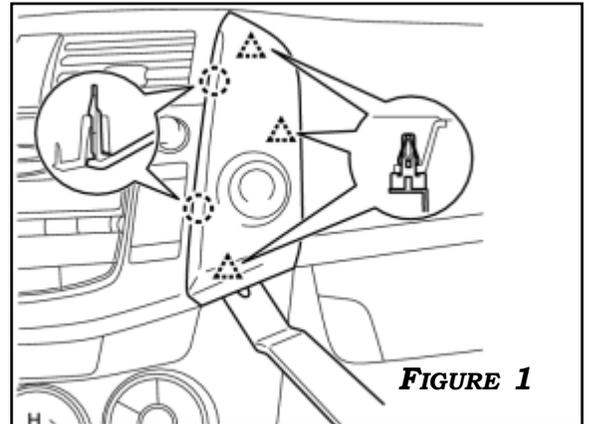

FIGURE 1
1. USING A MOULDING REMOVER, DETACH THE 3 CLIPS AND 2 CLAWS, AND THEN REMOVE THE RIGHT CLUSTER FINISH PANEL. REPEAT THE SAME STEPS TO REMOVE THE LEFT CLUSTER FINISH PANEL. DISCONNECT THE CONNECTOR. **FIGURE 1**